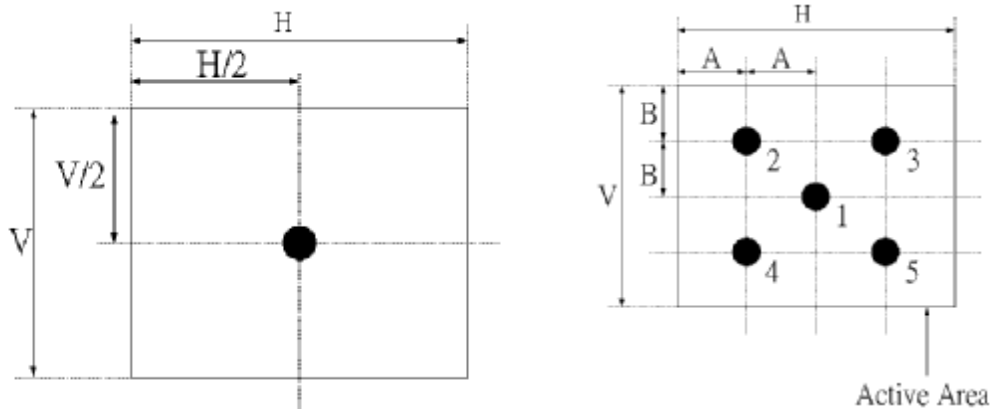

Fig.4-2 Optical measurement point
2. Surface luminance is luminance value at point 1 across the LCD surface 50cm from the surface with all pixels displaying white. From more information see FIG 4-2. When $I_{BL} = 5.5\text{mA}$, $L_{WH} = 450\text{cd/m}^2$ (typ.) $L_{WH} = L_{on1}$ (Where L_{on1} is the luminance with all pixels displaying white at center 1 location.)